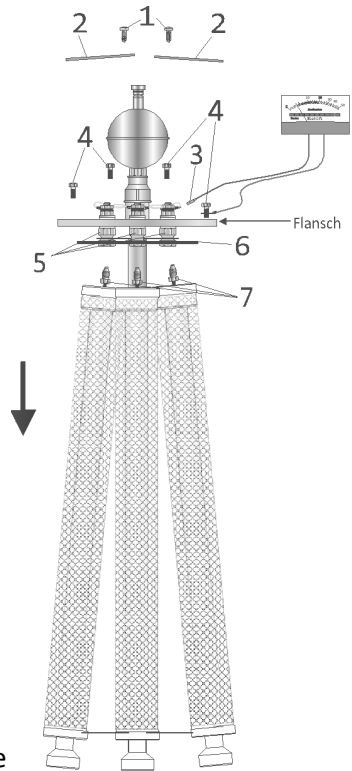

Fig. 1
3. Undo the self-tapping screws (1) and remove the flange cover (2) (Fig. 1)
4. Remove the contact blade (3) from the blade terminal
5. Undo all flange screws (4)